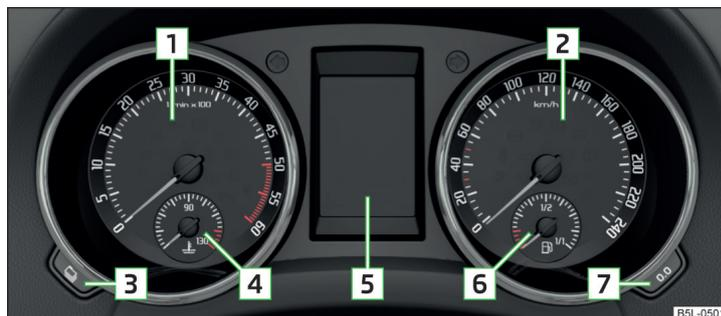

Fig. 23 Instrument cluster
The tachometer **1** » Fig. 23 on page 30 shows the actual engine speed per minute.
The speedometer **2** » Fig. 23 on page 30 displays the current speed.
► Press and hold the **[7]** » Fig. 23 on page 30 button.
Use buttons **[3]** and **[7]** to set the clock » Fig. 23 on page 30.